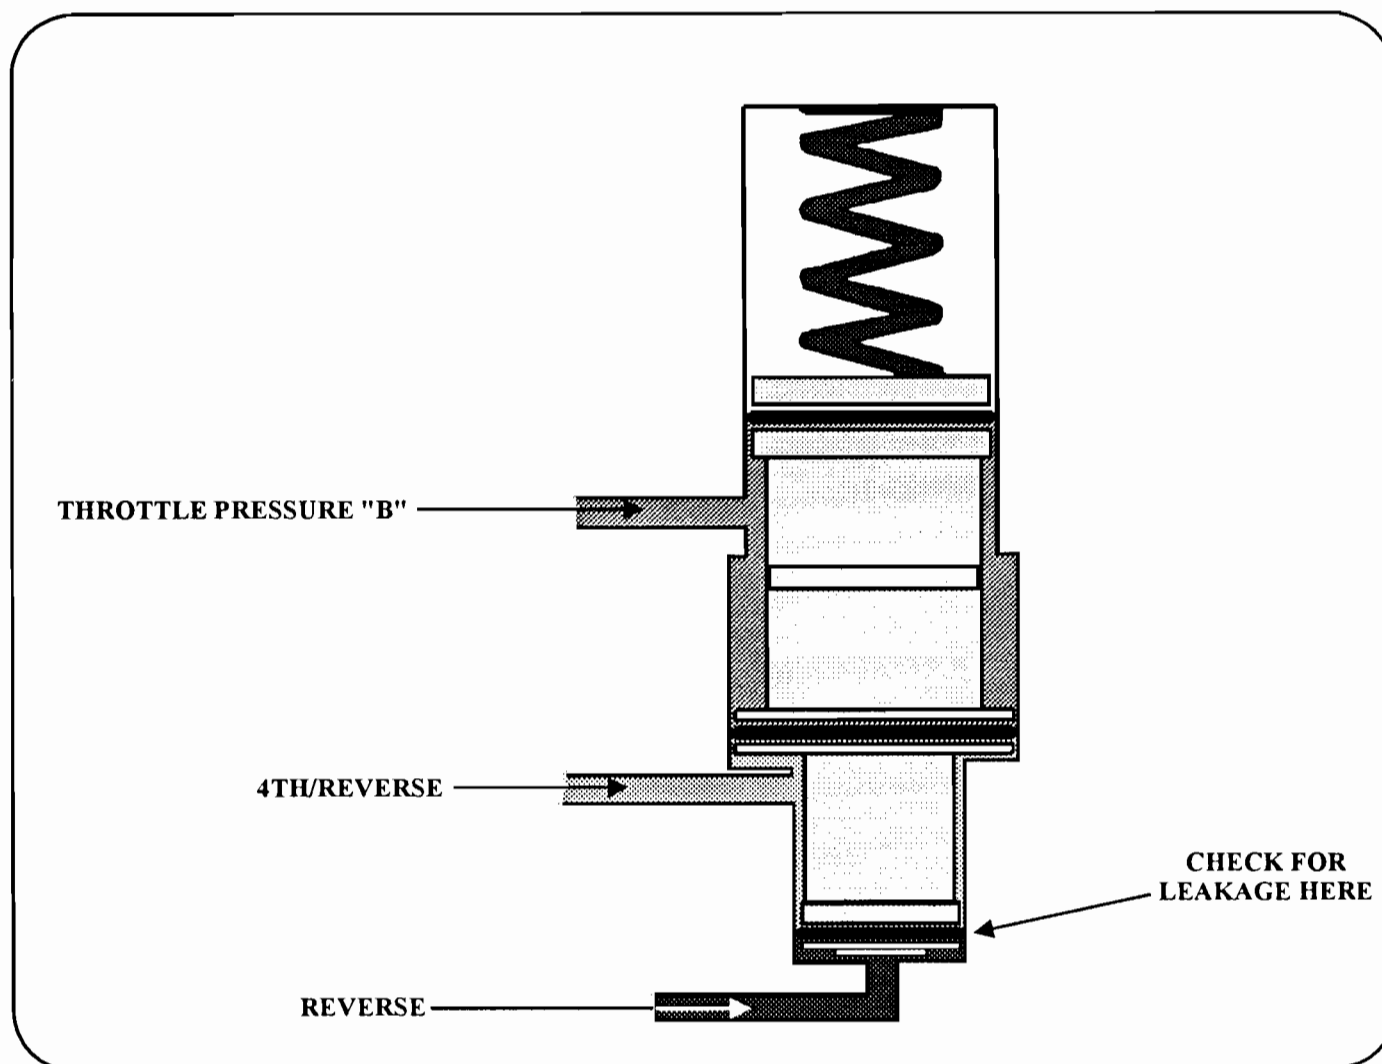

Figure 27
**CAUSE:** The PX4B uses a double action 4th/reverse accumulator. If the small accumulator "o" ring seal is leaking, (See figure 27) only the 3-4 shift will be affected as 4th gear oil leaks into the reverse circuit and could cause a soft or flared 3-4 shift. The 4th/reverse accumulator is the center accumulator piston located in the servo body section of the valve body assembly.